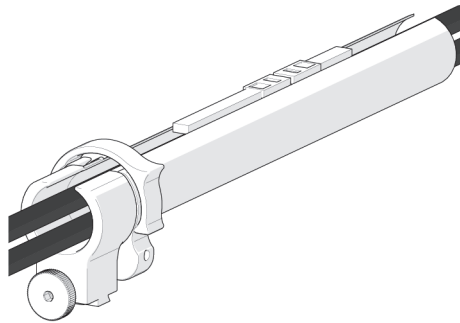

Figure 2-46 Zip opposite end
3. When the cable is placed in the entire length of the tube, bring the zipper from the tube's opposite end, meeting at any point in the middle (see Figure 2-46 on page 68).